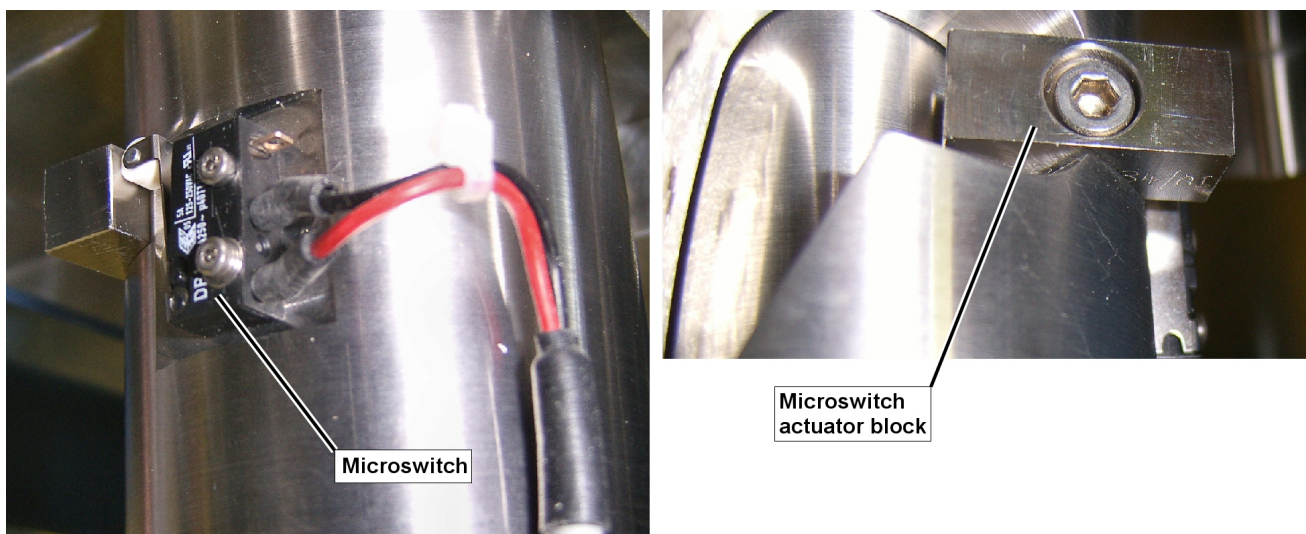

Figure 6-1 Lid upper microswitch
- 2 Refit the lid microswitch actuator block (see Figure 6-1).